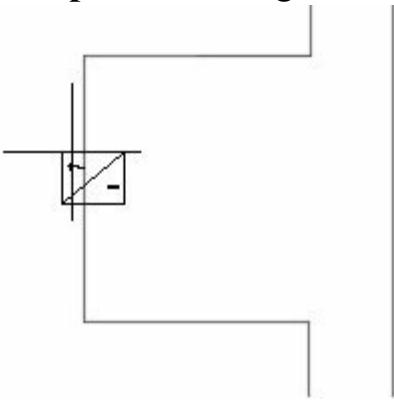

Figure-15. Placing power source
- Click in the middle of the wire to place the component; refer to Figure-15. The **Insert/Edit Component** dialog box will be displayed; refer to Figure-16.